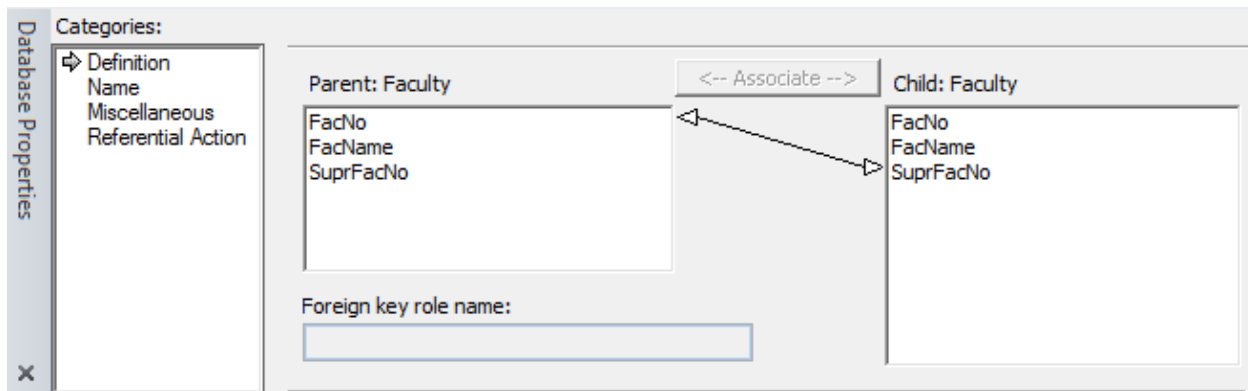

Figure 47: Relationship Properties after Associating the Primary and the Foreign Key
- Make the Relationship Association: In the **Definition** area of the relationship’s Database Properties window, select “FacNo” on the left and “SuprFacNo” on the right. Then click the **Associate** button and the Database Properties window appears as shown in Figure 47.